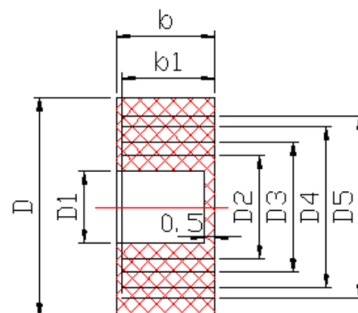

图 3
7.2.6 Cable outer diameter of should fit bore diameter of the seal ring (Figure 3). Min diameter of cable is  $D1$ , max  $D5$ , seal ring is of rubber XH-21, specification and dimension see table 4 (concentric-ring of seal gasket can be striped off to fit inner diameter of incoming cable). The diameter gap should not exceed 1mm. Clamp the connection plug and ensure that there is no clearance between seal ring and power cable as well as between seal ring and connection box body, otherwise the motor will lose its explosion-proof function.